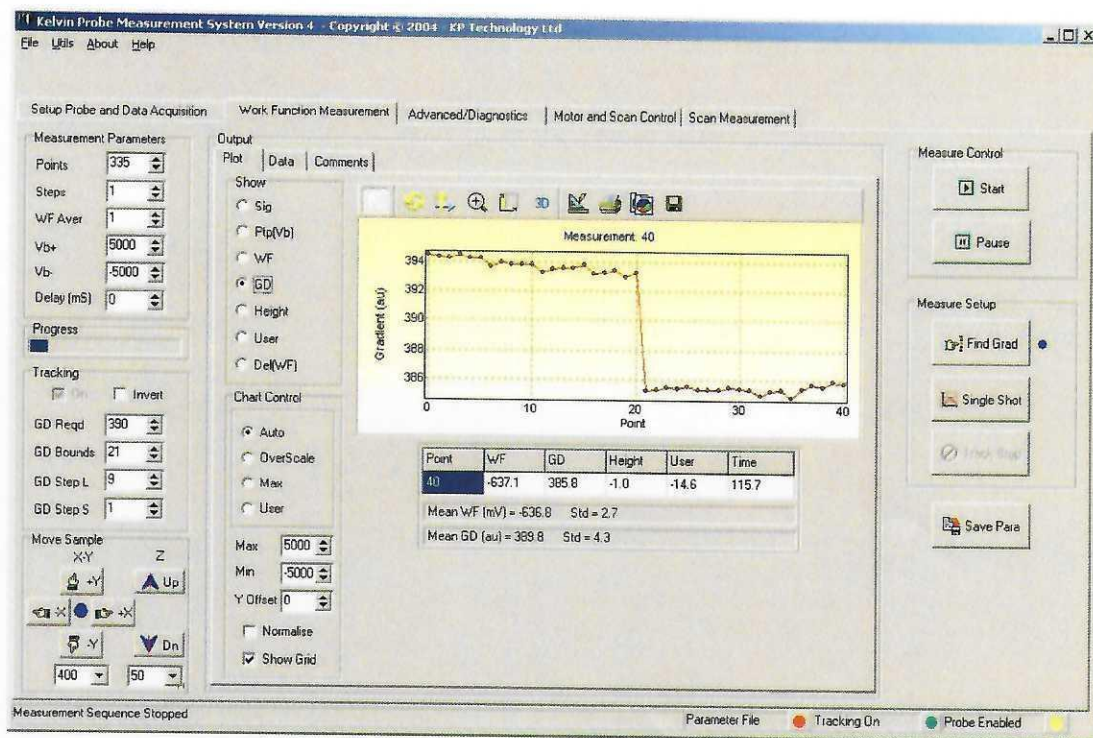
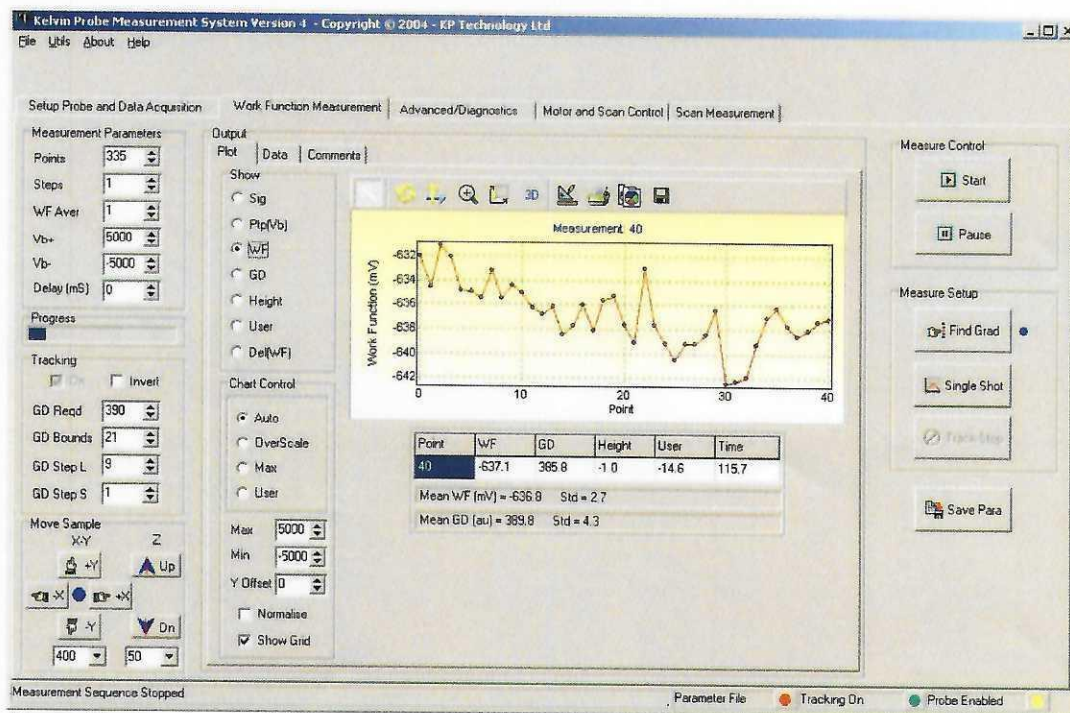

Figure 24. Example of the tracking loop when the sample is suddenly moved back 0.5 mm.
Figure 25 Associated WF change during tracking, i.e., the mechanical disturbance has little effect.
This group gives the current status of the tip tracking procedure, it is only active if either 'tracking' has been switched on or the 'Find Grad' button has been pressed. The following parameters are used to indicate tracking status (see Figure 24): 'delGD' is the value of the difference between the current gradient (*GD*) and the gradient required (*GD Reqd*), 'WF' is the current work function and 'Steps' is the number of DC offset steps taken in the current tracking loop. 'DC' is the actual DC offset setting. The tracking progress gauge gives an overview of the tracking procedure: it is red if the current gradient is out of the requested gradient bounds and turns blue if the requested gradient has been found. 'Track Stop' halts the gradient tracking loop at any point.
16. After the requested gradient has been found the user can now proceed to a WF measurement, in this case the 'Show DC' data represent the number of steps require to maintain a constant spacing. Figure 24 shows the effect of a deliberate change in spacing during a measurement due to a sudden translation of the sample away from the tip. We observe that the probe is pushed forward to maintain spacing and the WF data remain relatively unaffected, see Figure 25